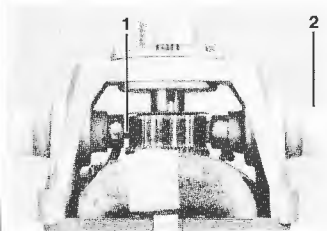

Fig. 5:
- The motor brushes are under the white plastic knurled screw caps on the opposite sides of the motor (see Fig. 5, [2]).